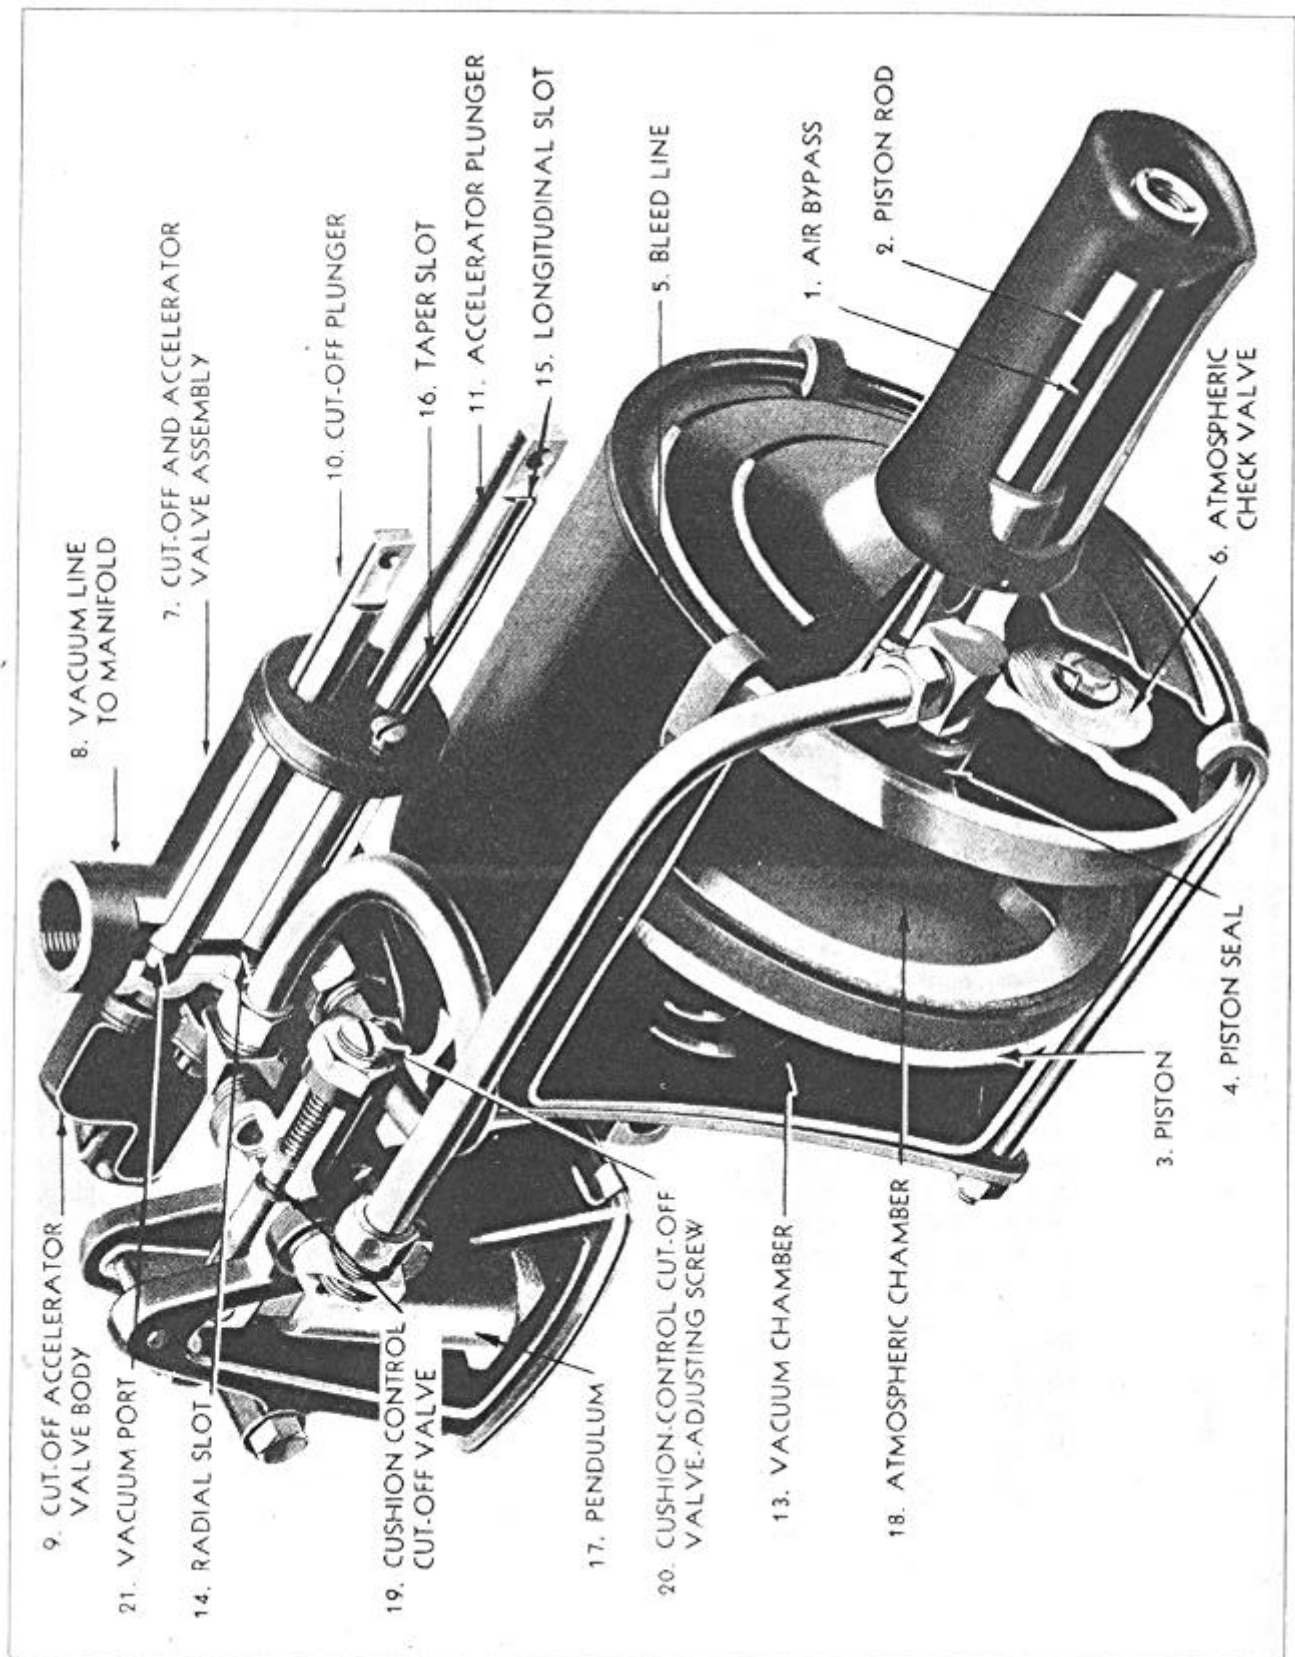
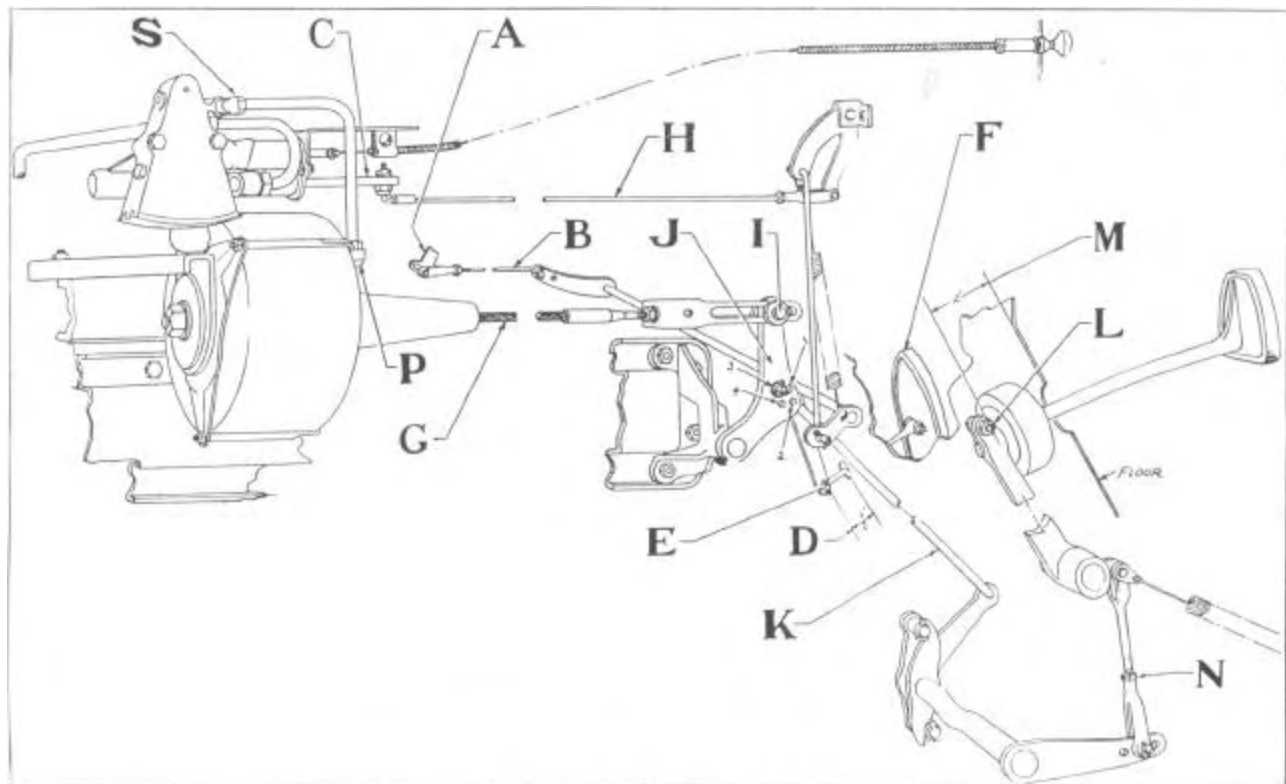
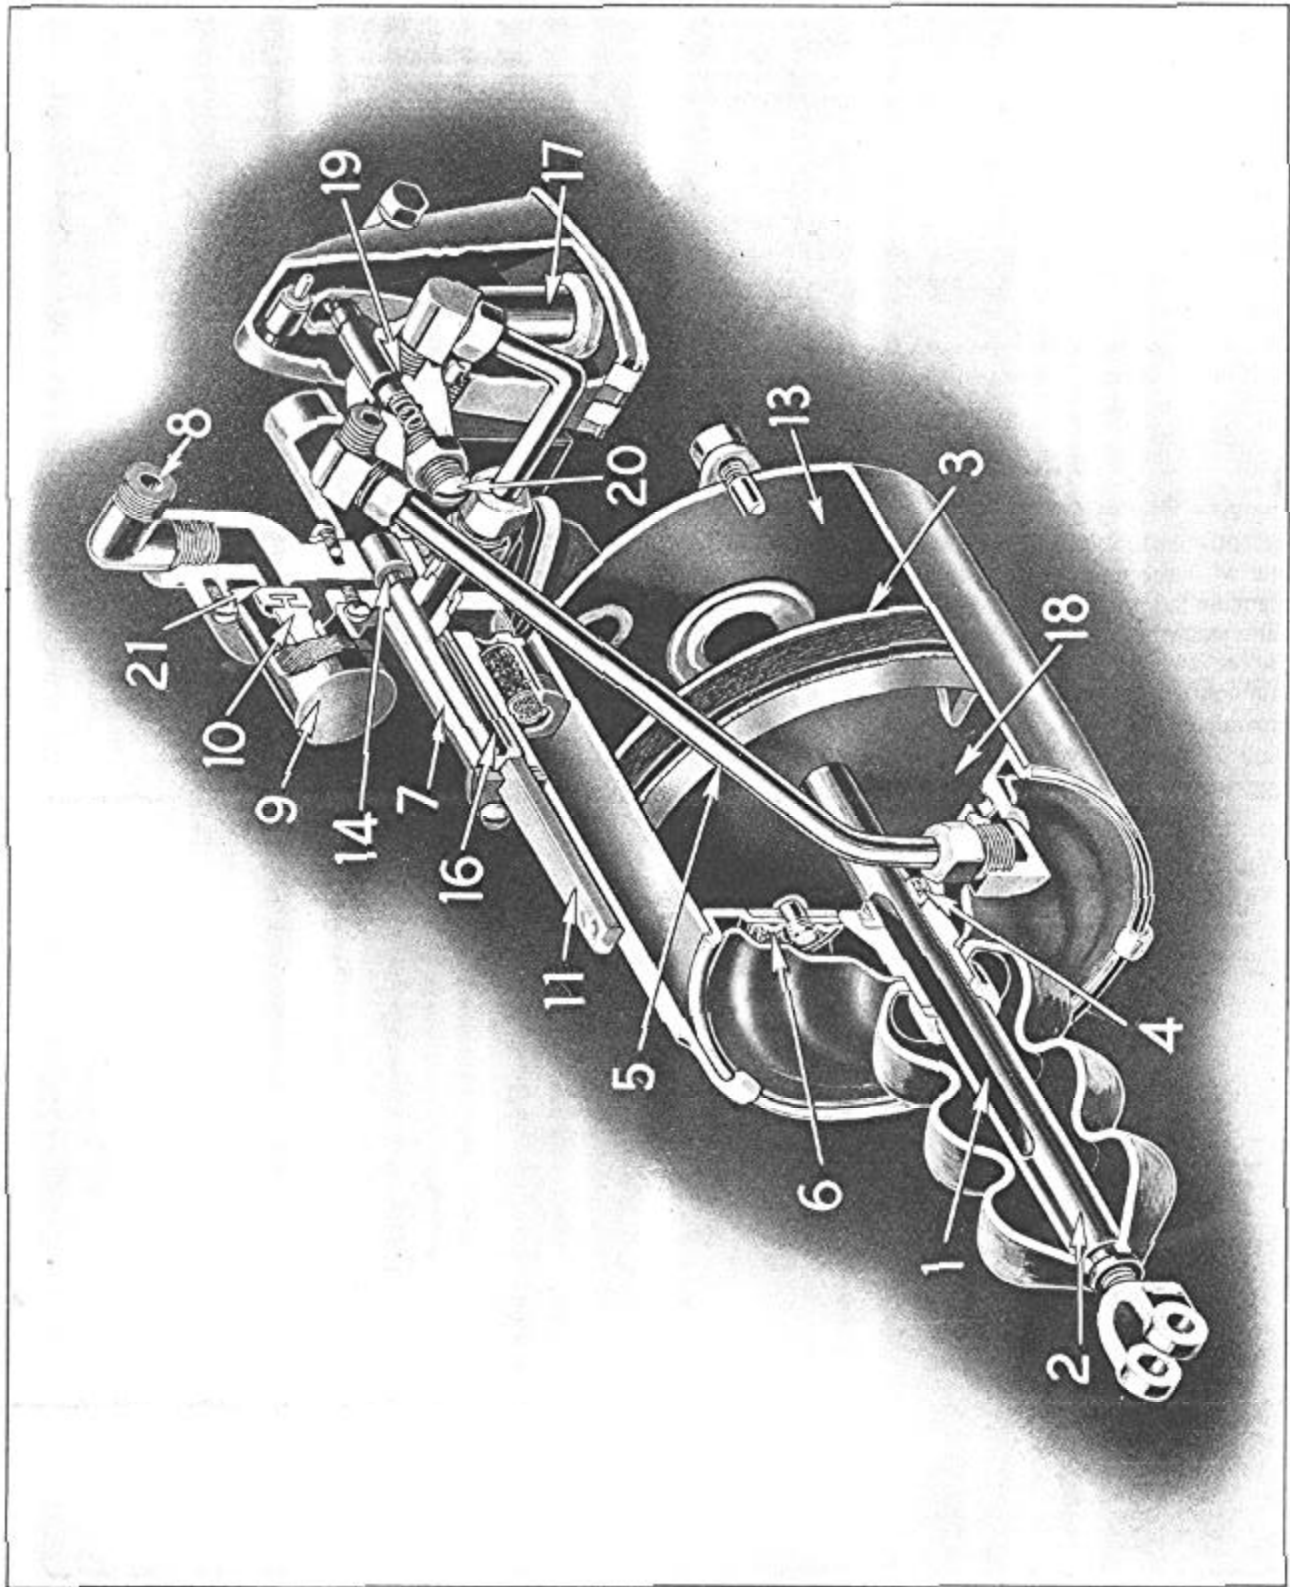

Figure 901—Automatic Clutch Unit—1934-1936
Figure 902—Automatic Clutch Installation—1934-1936
Figure 903—Automatic Clutch Unit—1937
When the cut off plunger (10) Figure 901, which is operated by the dash control is pulled out, vacuum from the engine intake manifold is admitted to the accelerator plunger (11) which controls the vacuum to the power cylinder.
A comparison of the earlier design shown in Figure 901 with the 1937 design shown in Figure 903 will show the detail differences in the control valves and particularly the air filter in the 1937 design which prevents dirt entering the vacuum chamber during engagement of the clutch.
The solenoid cut off valve is also clearly shown in Figure 903.
The accelerator valve plunger (11—Figures 901 and 903), must be back against its stop when the accelerator pedal is released. To insure this, disconnect the throttle pull rod (B) (Figures 902 and 904) and check the clearance between the accelerator pedal bellcrank (E) and the toe board. If necessary, adjust length of accelerator valve plunger rod (H) (Figures 902 and 904) so that this clearance is as shown at (D).
### 5A.-6A. Centering Piston Travel in Cylinder (Power units with piston rod cable—Figure 902)
With the engine warm and running smoothly at idle speed and clutch disengaged by the automatic control, pull back on the throttle rod (B) (Figures 902 and 904) just until the piston rod (G) begins to move backward. While holding the rod (B) in this position, turn the clevis on its front end until the clevis pin can just be inserted through the clevis and the extreme rear of the slot in the throttle lever (A). After the clevis pin is inserted, any additional backward movement of the rod (B) after the piston